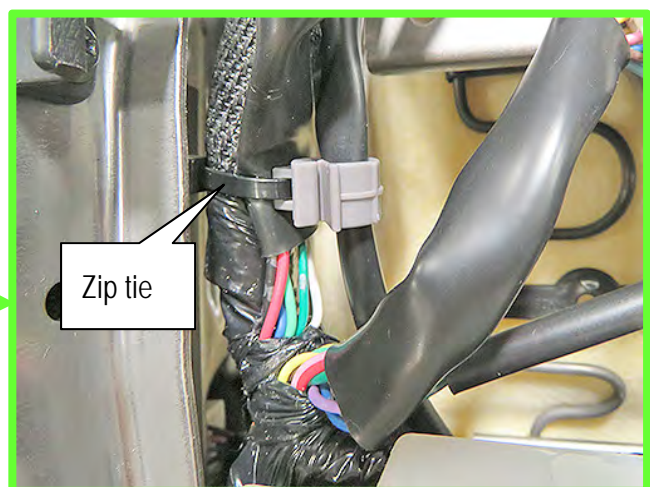

Figure 9
11. Cut through zip tie shown in Figure 9.